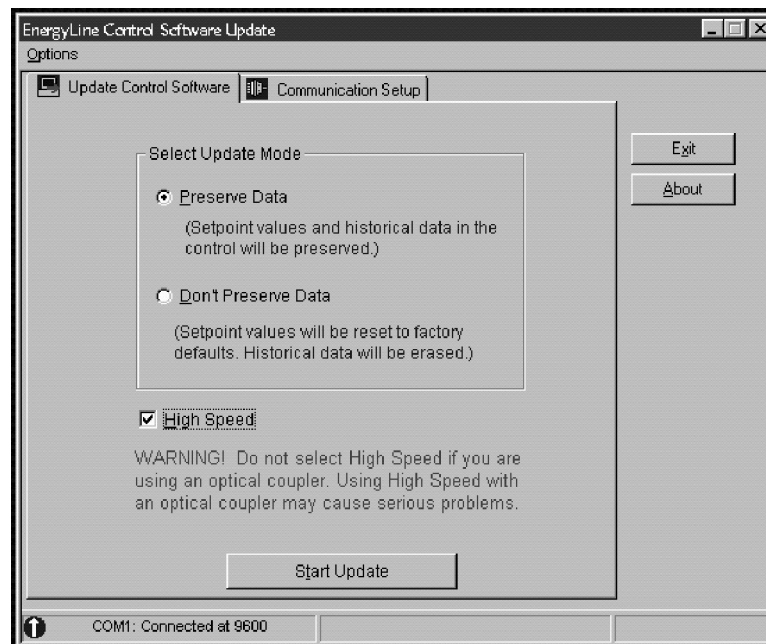

Figure 11. The Software Update dialog box.
- (a) Click on the file *Start menu>Programs>EnergyLine>Update*. The Update dialog box opens. See Figure 11.